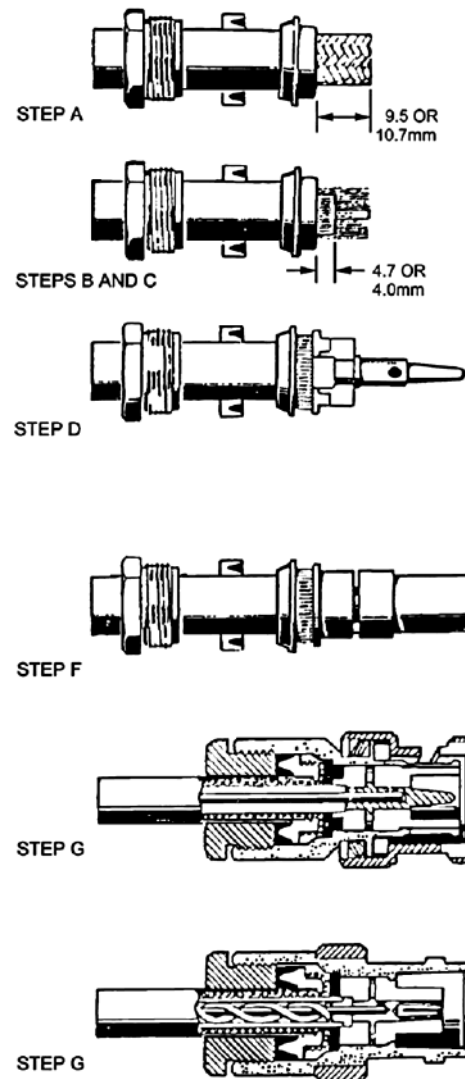

Figure 12-20 Attaching BNC Connectors With Captivated Contacts to Coaxial Cable
14. When attaching BNC connectors with captivated contacts to coaxial cable (see Figure 12-20), follow this procedure: